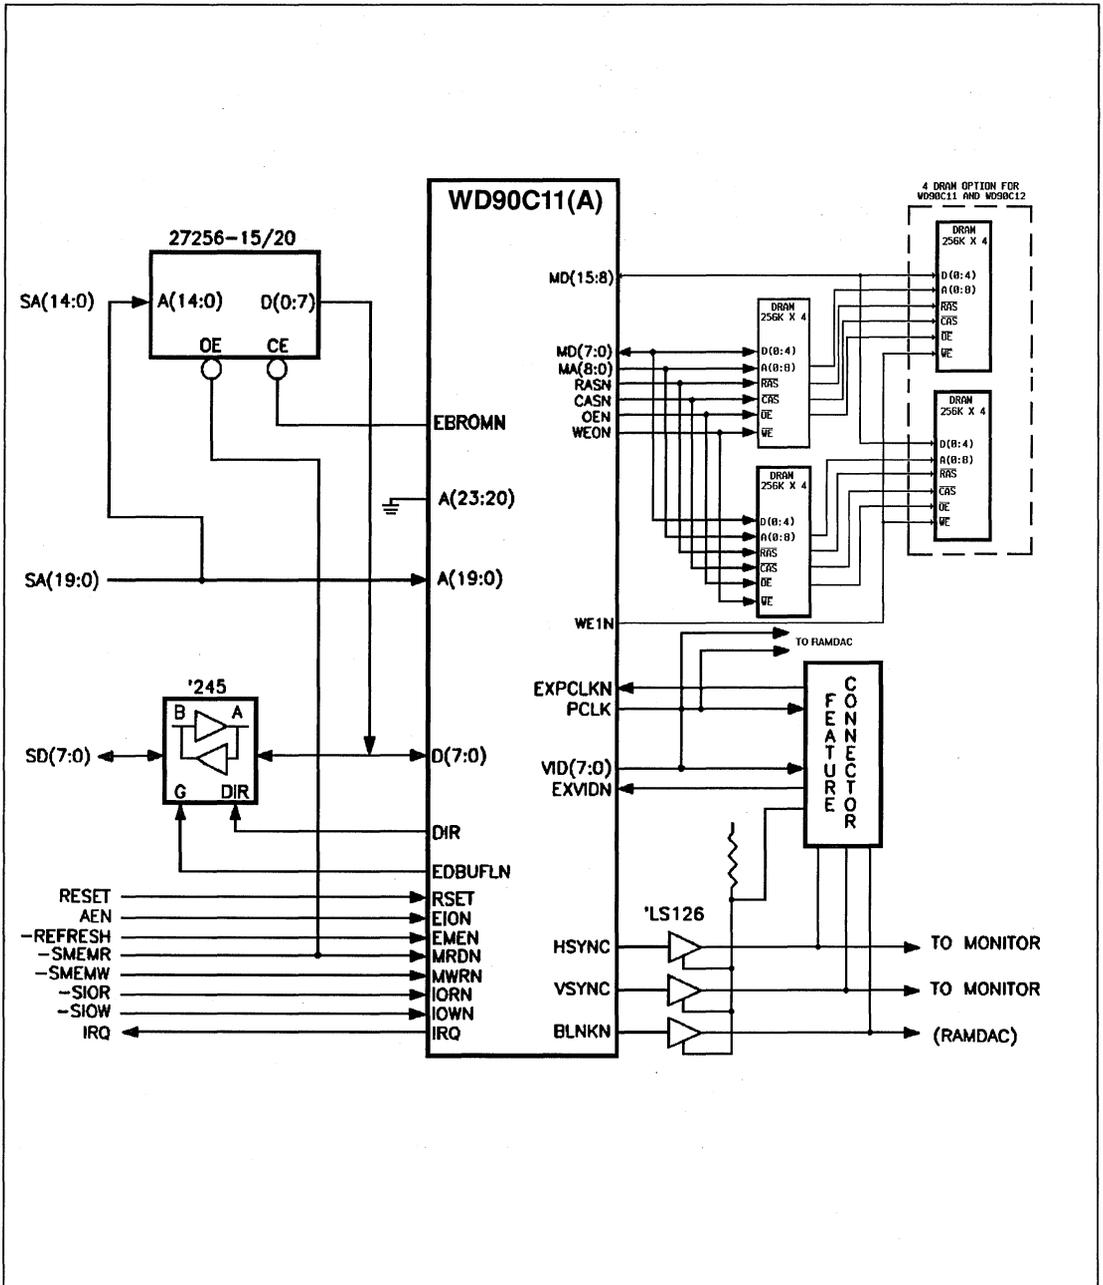

FIGURE A-2. 8-BIT PC AT INTERFACE WITH 8-BIT BIOS
Figure A-2 shows a block diagram of the WD90C11(A) with 8 bit PC/AT interface using 8 bit BIOS. The system data bus SD(7:0) and address